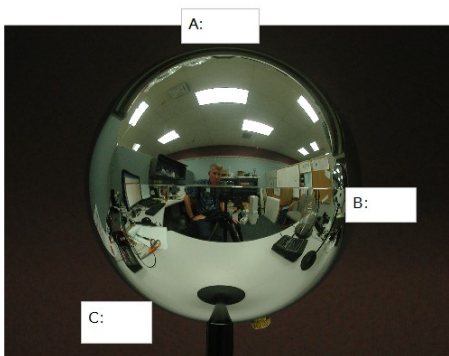

Figure 3: Charge Distribution on a Sphere
6. Touch the sphere at point A (see Figure 3) with the proof plane keeping your hands far away
7. Put the proof plane in the inner cylinder of the “ice pail” and record the voltage from the electrometer on Figure 3 at point A. Do not ground the proof plane so the total charge on the sphere and proof plane remains constant.
Recall that the voltages recorded on Figure 3 are not the voltages on the sphere (the sphere is at a uniform 3000 V). They are the voltages between the inner and outer mesh cylinders with the proof plane inside the inner cylinder, which is directly proportional to the charge on the proof plane. What can you conclude about the distribution of charge on the sphere?